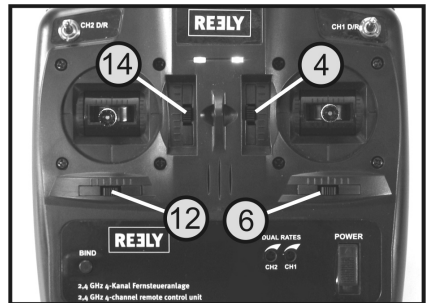

Figure 10
If the rudder movements are not according to figures 10 to 14, you can switch the running direction of every single servo with the reverse function. Switching is possible at drive or flight controllers as well when the motor is running at full speed when the control lever for the motor function has been pulled all the way to the body, contrary to the function described above.
The trimming button for the aileron and rudder functions (see figure 10, items 6 and 12) must be pushed to the right at the same time.
The trimming button for the elevator and motor functions (see figure 10, items 4 and 14) must be pushed up at the same time.
- Move the trimming button for the aileron function (see figure 10, item 6) to the left and the trimming button for the rudder function (see figure 10, item 12) to the right, and hold the two trimming buttons in this position. In practice, it has turned proven its worth to operate the trimming button with the thumb and first finger of one hand.